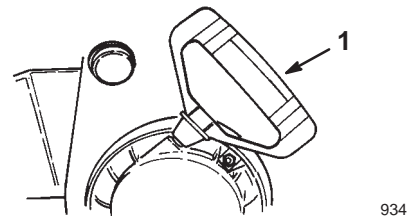

Figure 16
- **Recoil Starter** (Fig. 16)—The recoil starter is on the back side of the engine. Pull the recoil starter to start the engine.
8. Grasp the recoil starter handle (Fig. 16) and pull it out slowly until positive engagement results; then pull the handle vigorously to start the engine.